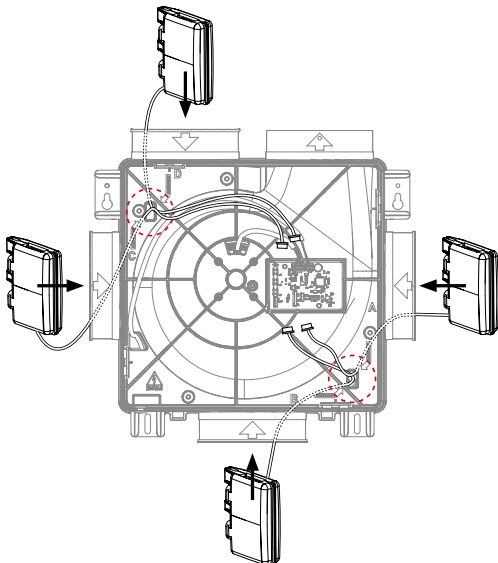

Figure 14: Four options for cabling up to 1 CO₂ Box Sensor to circuit board.
4. Pass the cable of the CO₂ Box Sensor through the opening on the inside of the casing at the level of the corresponding duct port. Then pass the cable of the CO₂ Box Sensor through the relevant opening (marked with 'sensor cable') of the motor plate according to the diagram shown below in Figure 14: Four options for cabling a maximum of 1 CO₂ Box Sensor to the circuit board.